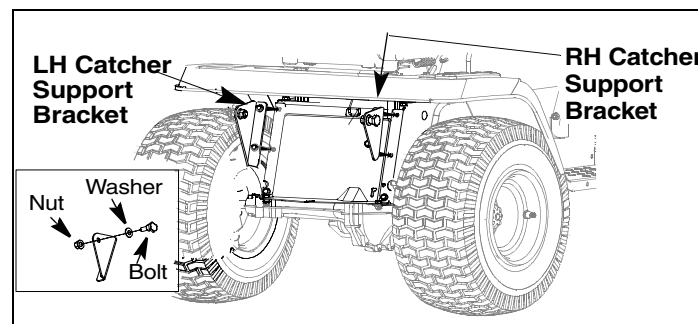

Figure 3
- Place the RH Catcher Support Bracket (Ref. No. 2) in position as shown in Figure 3.
- Insert the Shoulder Screw/Bell Washer subassembly through the hole on the RH Catcher Support Bracket. Secure with a Flange Lock Nut (Ref. No. 4). See Figure 3 inset for details. Repeat on other side.